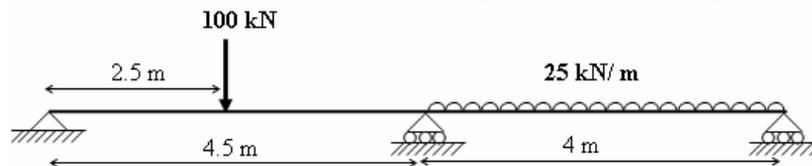

Fig.2
2. Analyze the continuous beam shown in Fig.2 by strain energy method. [16]